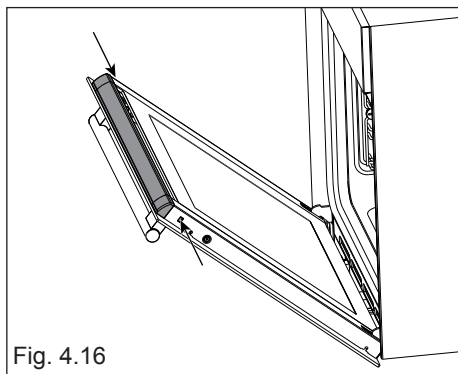

Fig. 4.16
- Press the tabs on the sides of the glass retainer which is positioned at the top of the oven door (arrows in fig. 4.16), then gently remove the retainer (arrow 1 in fig. 4.17).